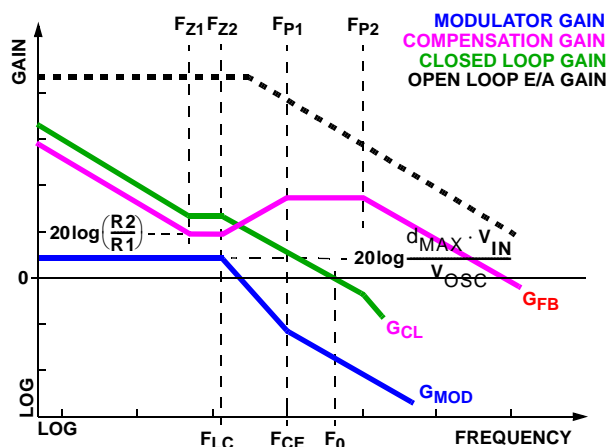

FIGURE 10. ASYMPTOTIC BODE PLOT OF CONVERTER GAIN
Figure 10 shows an asymptotic plot of the DC/DC converter's gain vs. frequency. The actual Modulator Gain has a high gain peak dependent on the quality factor (Q) of the output filter,
which is not shown. Using the above guidelines should yield a compensation gain similar to the curve plotted. The open loop error amplifier gain bounds the compensation gain. Check the compensation gain at  $F_{P2}$  against the capabilities of the error amplifier. The closed loop gain,  $G_{CL}$ , is constructed on the log-log graph of Figure 10 by adding the modulator gain,  $G_{MOD}$  (in dB), to the feedback compensation gain,  $G_{FB}$  (in dB). This is equivalent to multiplying the modulator transfer function and the compensation transfer function and then plotting the resulting gain.